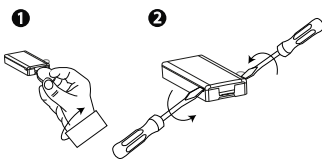

Figura 4: Device cover removal
- Quite la tapa. Ver a Figura 4.